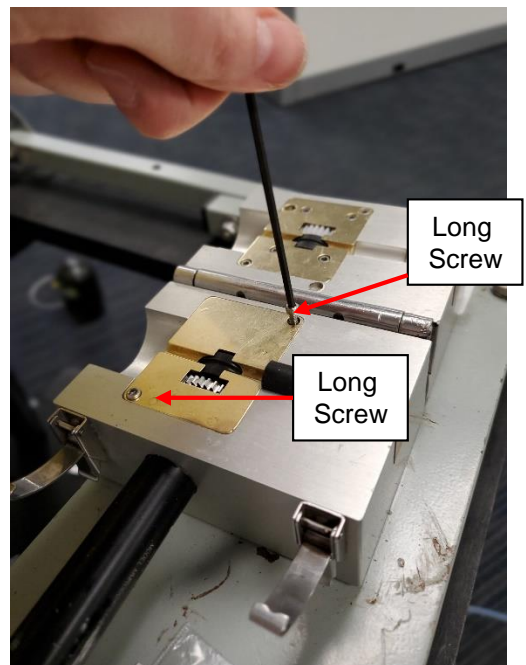

Figure 34
13.5.1.2 Use small 3/32" Allen wrench to remove two (2) long machine screws that secure Lower Brass Plate to lower Blowing Head section. **See Fig. 34.**